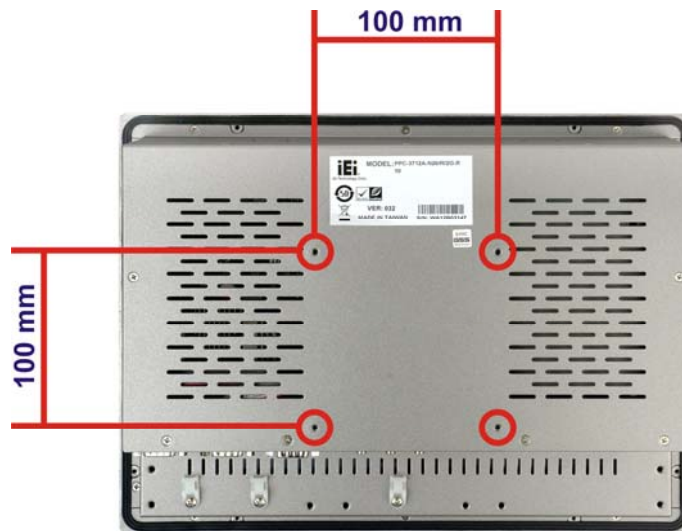

Figure 3-36: Arm Mounting Retention Screw Holes
Step 3: Align the retention screw holes on the mounting arm interface with those in the PPC-37xxA-N26 panel PC. The arm mounting retention screw holes of the PPC-37xxA-N26 panel PC are shown in **Figure 3-36**.